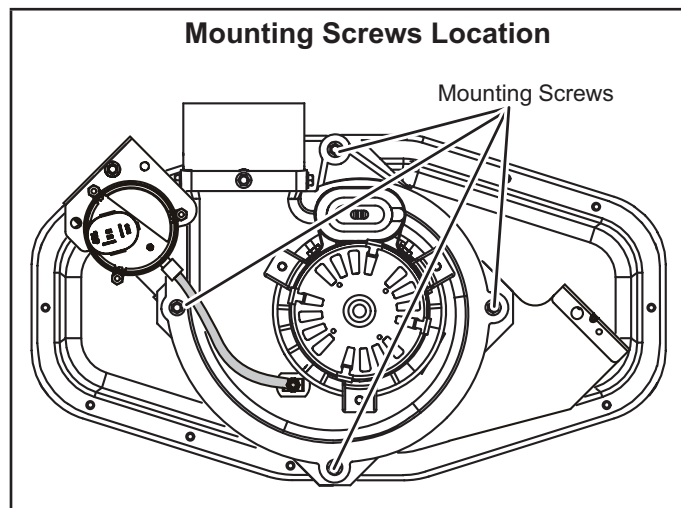

FIGURE 15
A 4-inch diameter flue transition is factory-installed on the combustion air inducer outlet of all models. FIGURE 15 shows the combustion air inducer as shipped from the factory.
- 1 - Remove the four mounting screws which secure the combustion air inducer / pressure switch assembly to the orifice plate. See FIGURE 15. Lift and rotate the assembly 90 degrees clockwise or counter clockwise to either the 3 o'clock position or to 9 o'clock position and re-secure with four screws. Gasket should be left in place.